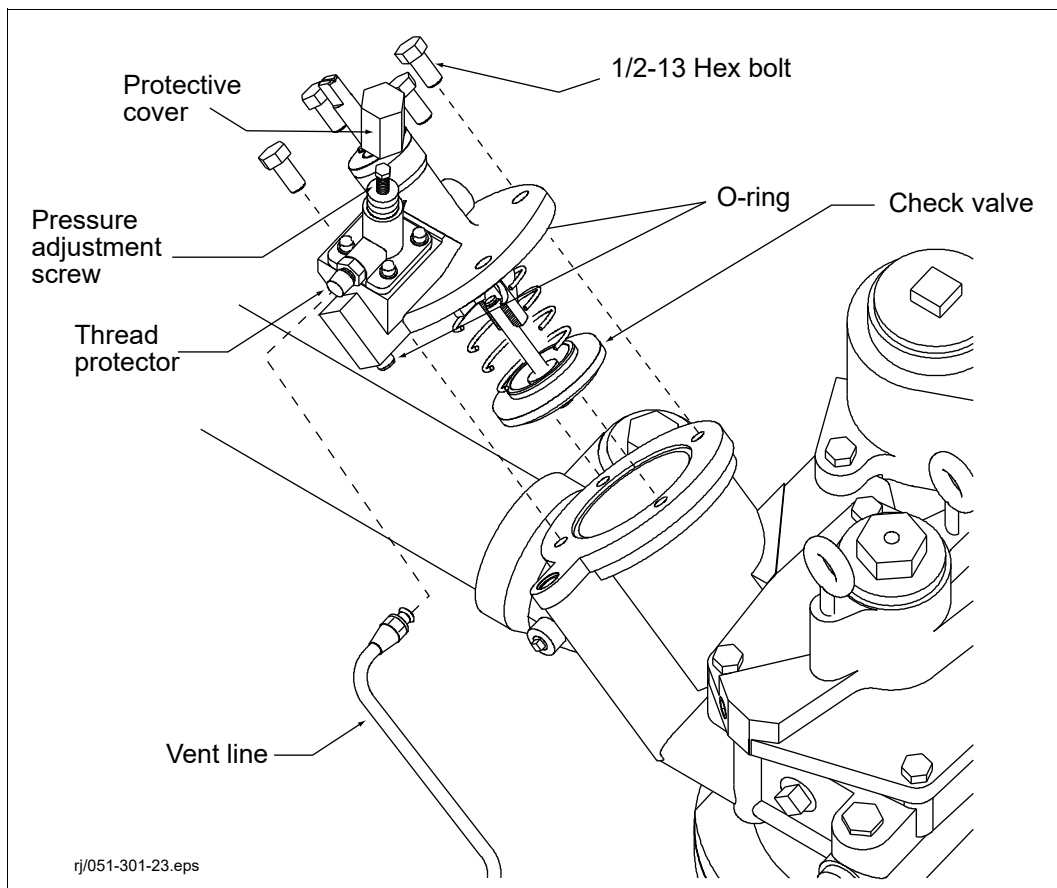

Figure 17. Maxxum® Check Valve Assembly
1. Relieve system pressure by removing the protective cover and then backing out the pressure adjustment screw (see Figure 17).